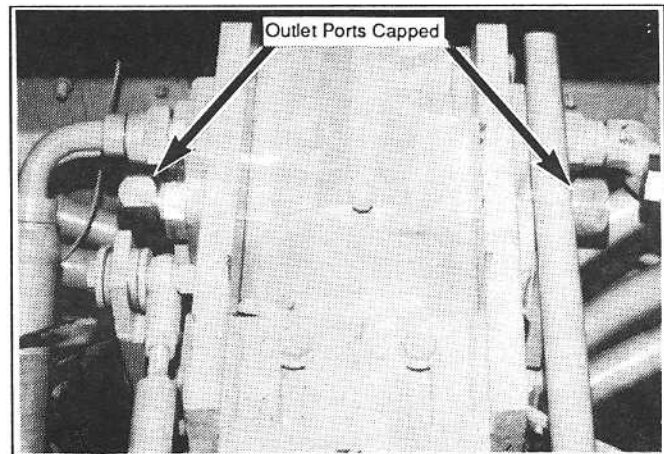

Figure 5-3
2. Cap these ports with steel plugs. (See figure 5-3)